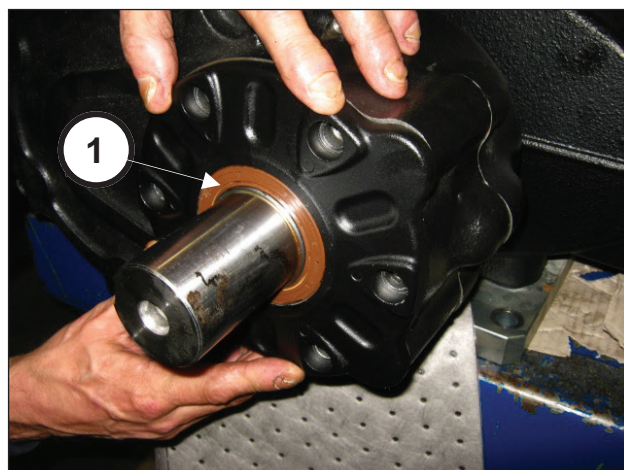

Fig. 94
To prevent damage to the seal ring, take special care when inserting the seal ring on the pinion (pos. ①, Fig. 94)